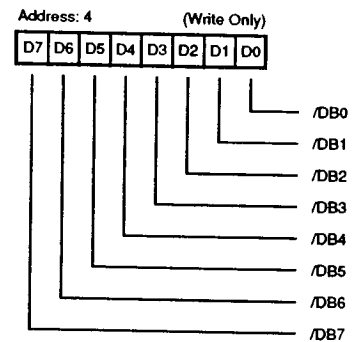

Figure 13. Select Enable Register
**Select Enable Register.** Address 4 (Write Only). The Select Enable Register (Figure 13) is a write-only register which is used as a mask to monitor a signal ID during a selection attempt. The simultaneous occurrence of the correct ID bit, /BSY FALSE, and /SEL TRUE will cause an interrupt. This interrupt can be disabled by resetting all bits in this register. If the Enable Parity Checking bit (Mode Register, bit 5) is active (1), parity is checked during selection.